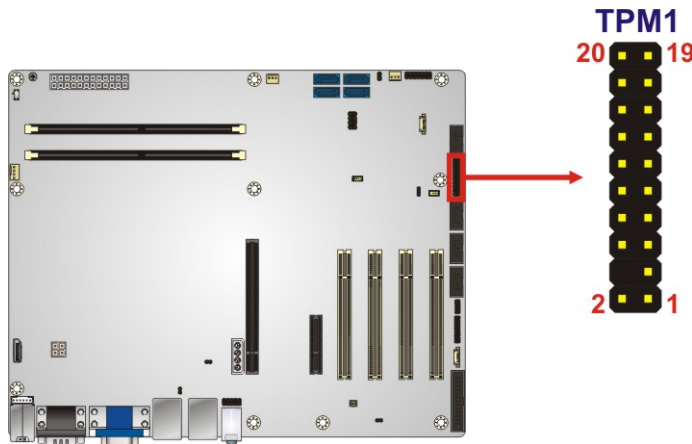

Figure 3-29: TPM Connector Pinout Location
- CN Location:** See **Figure 3-29**